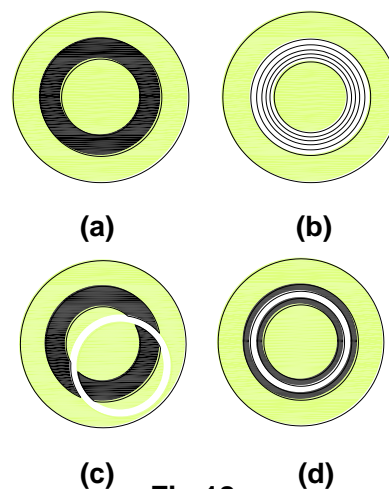

Fig.18
- b. Observe from the telescope. The bright ring and dark ring should be coincided with each other as shown in **Fig. 18 (d)**.
- d. If the bright ring is still obscure as in **Fig. 18 (b)**, adjust the condenser focus knob.
- e. If the two ring images are not coincided as shown in **Fig. 18 (c)**, hold the ring plate from the bottom of